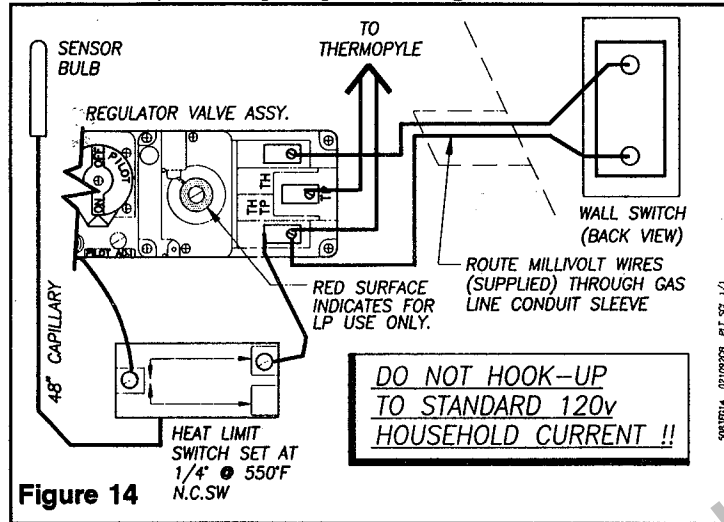

Figure 14
2. Using the 18ga. MILLIVOLT WIRE and the WALL SWITCH, both supplied with the appliance, proceed to connect per wiring diagram on Figure 14.